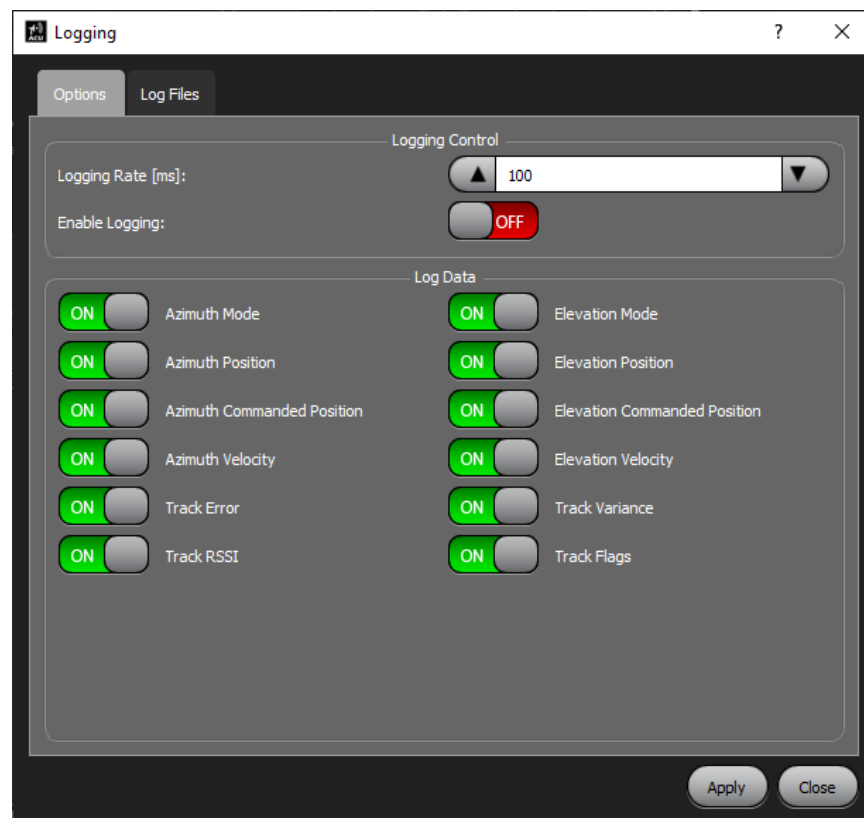

Figure 34: Logging Window
1. Select the Logging button to access the Logging window. The Options tab is shown in Figure 34.